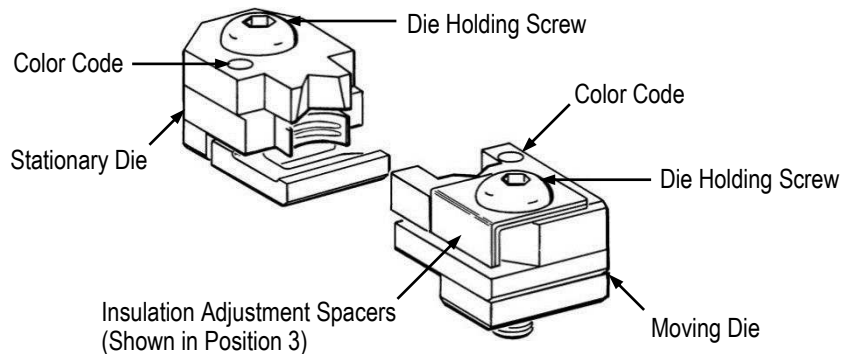

Figure 1
The terminal crimping dies listed in Figure 1 are designed to be used with hand tool 69710-1 to crimp PIDG STRATO-THERM terminals onto wire sizes 24 through 10 AWG. Refer to instruction sheet 408-2095 for information concerning the hand tool. For other compatible tooling, call the number at the bottom of this page.
2. Turn both insulation crimp adjustment spacers so that they fit into the notch in the side of the moving die for position 3—loose. See Figure 1.
2. Turn both insulation adjustment spacers of the moving die so that they fit into the notch in the side of the die (position 3—loose). See Figure 1.